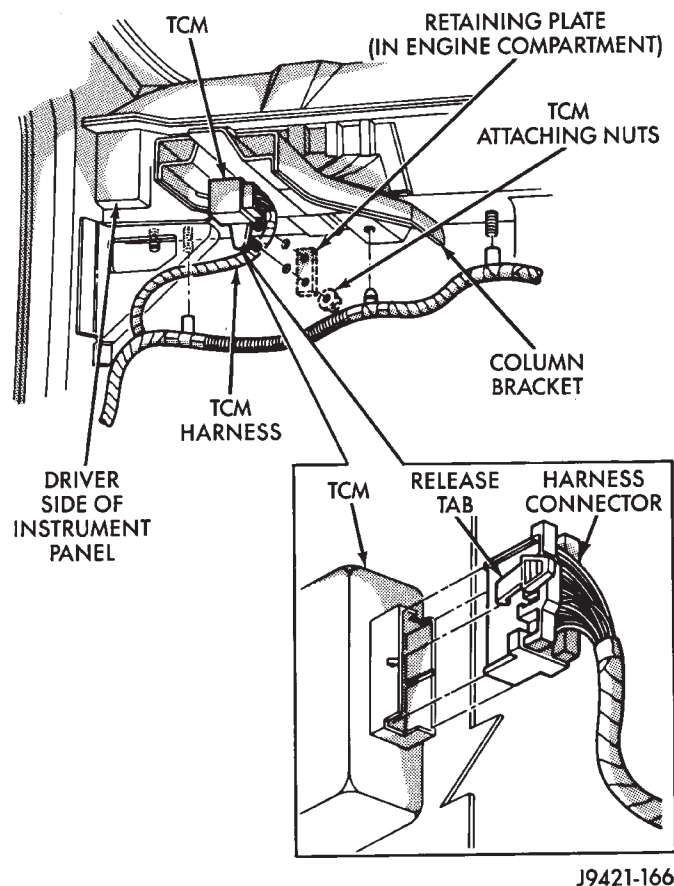

Fig. 15 TCM Location And Mounting (42RE)
The TCM is located on the driver side of the dash adjacent to the steering column. The module and harness connector are accessible from under the instrument panel (Fig. 15).
The module has integral mounting studs for attachment to the dash panel. A retaining plate and two locknuts secure the module to the dash (Fig. 15). Although the module is inside the vehicle, the retaining plate and locknuts are on the engine compartment side of the dash panel.
(3) Work module downward until module harness connector is accessible.
(4) Lift release tab on harness connector (Fig. 15). Pull connector out of module and remove module from vehicle.